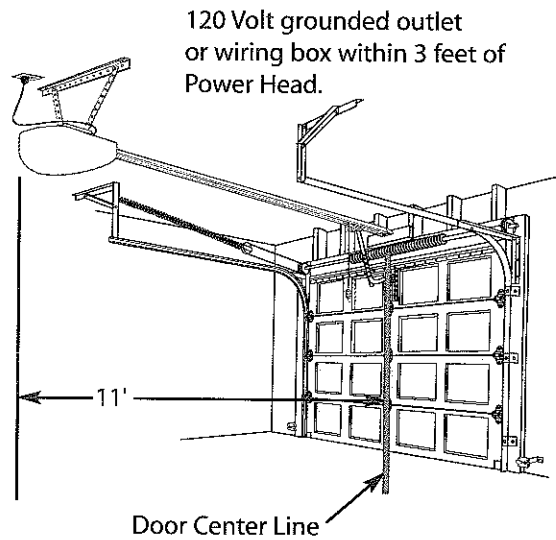
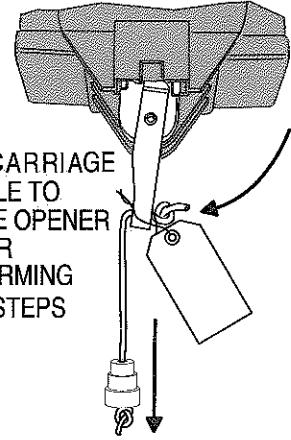

Figure 5 Check Power Head location
Figure 4 Disengage carriage
Check ceiling or space above where Opener Power Head will be mounted (**Figure 5**):
Be sure the carriage is disengaged from the belt before performing the following portion of the Safety-T-Beam® testing. The carriage is disengaged when the release lever is pointing down (Figure 4).
- Check that the Carriage is disengaged (Figure 4).
- Press the wall button to move the bullet (Figure 5) to the open position (away from the door) (Figure 4).